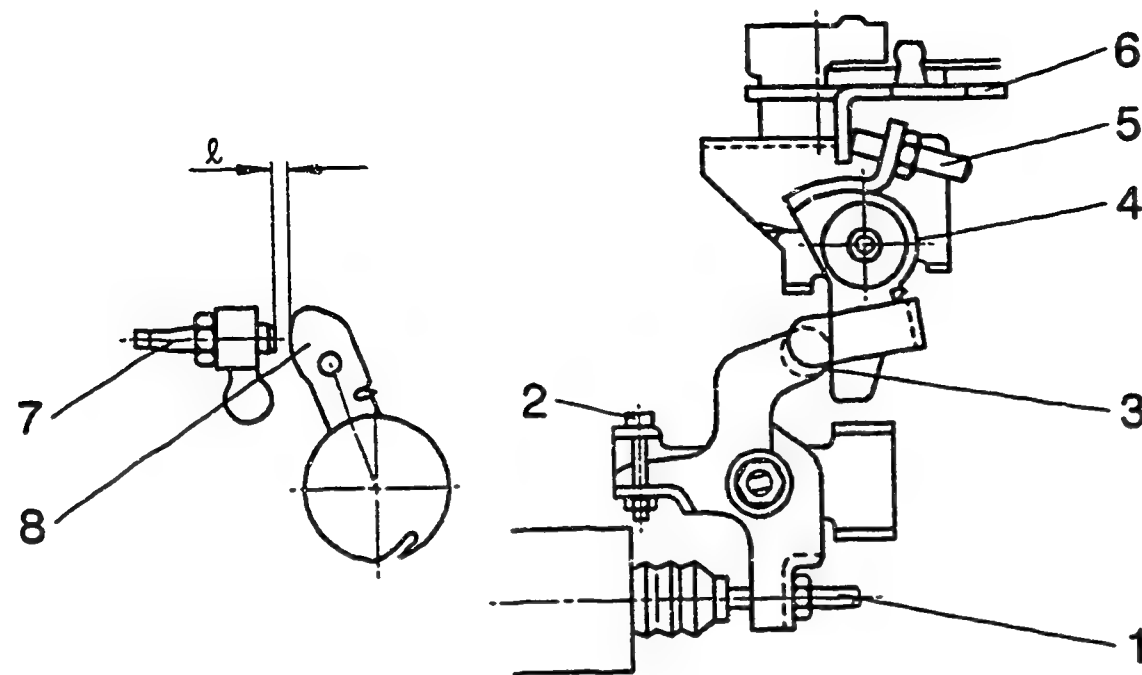

Fig. 33
2. Adjustment of intermediate lever position (see Figs. 33 and 34)
3. Adjustment of CSD lever (see Figs. 33 and 34)